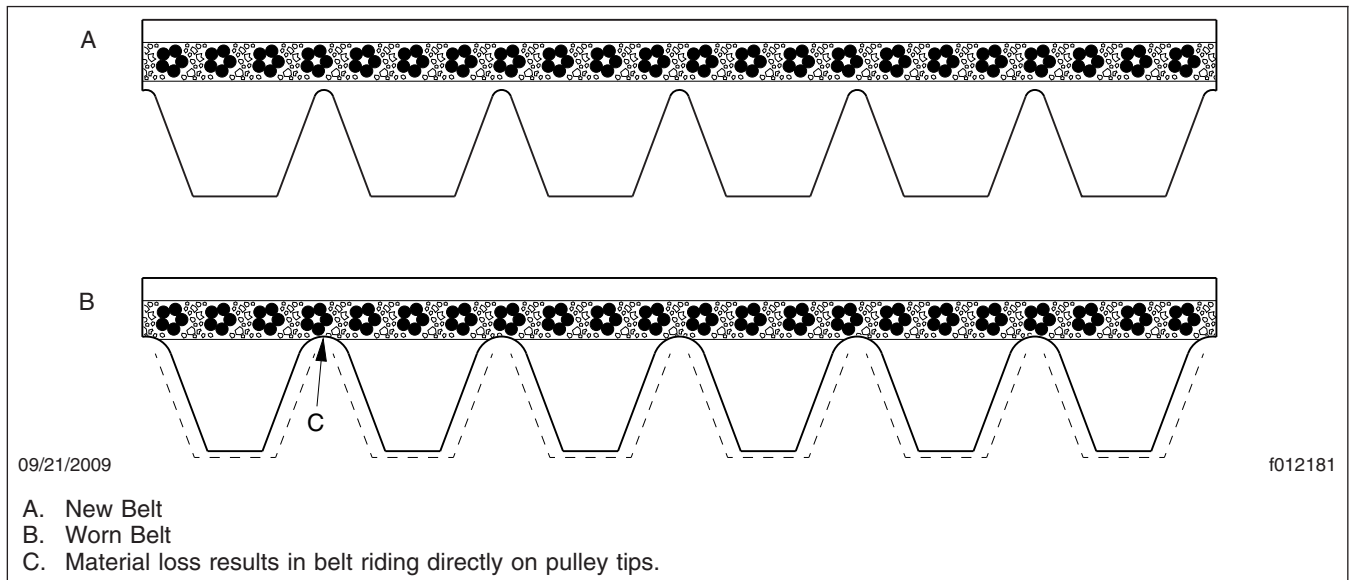

Fig. 2, Six-Rib Serpentine Belt (cross section view)
7. For EPDM belts, check the belt for material loss, which causes the belt to seat further down in the pulley and to ride directly on the pulley tips. See Fig. 2.